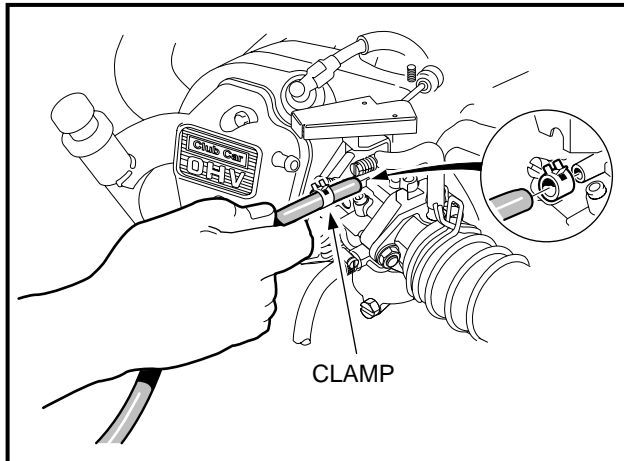

Figure 16-10 Carburetor Vent Tube
- 3.1. Disconnect the carburetor vent tube from the carburetor (**Figure 16-10, Page 16-8**).